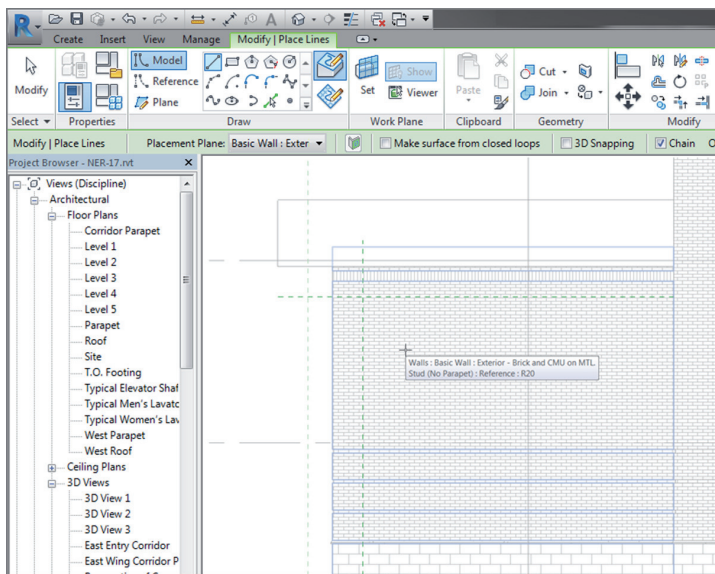

FIGURE BC1.42: Setting the vertical work plane
1. In the Draw panel, click the Model line button (see Figure BC1.42).